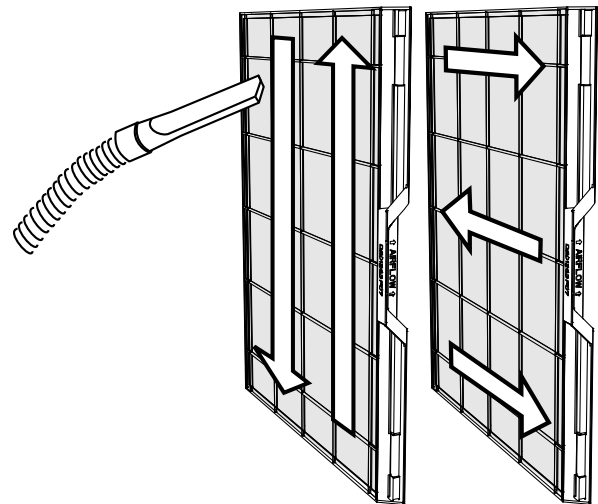

Figure 33 Vacuuming the Pre-filter
- Using a vacuum hose, vacuum in even strokes across the length of the PRE-FILTER. After vacuuming the entire PRE-FILTER using even strokes going in one direction, repeat the process using even strokes going in the opposite direction as shown in Figure 33.